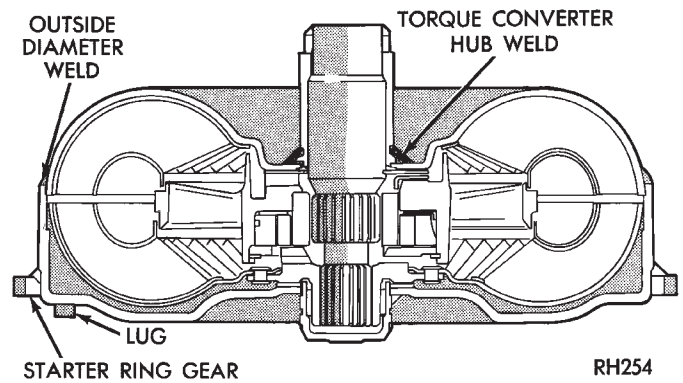

Fig. 18 Converter Leak Points—Typical
(2) Leaks at the converter hub weld (Fig. 18).